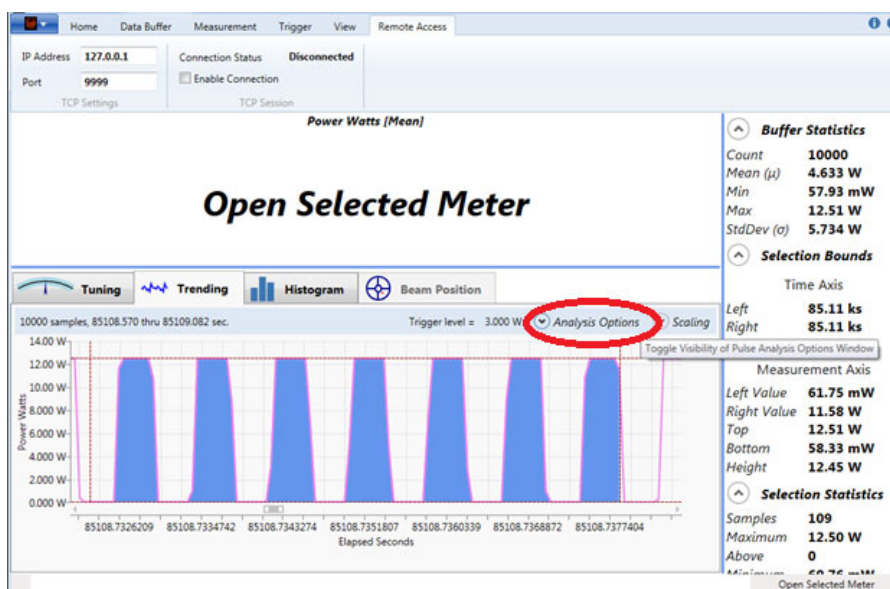

Figure 6-25. License Manager – Analysis Options
- The drop-down menu for Analysis Options (shown in Figure 6-25):